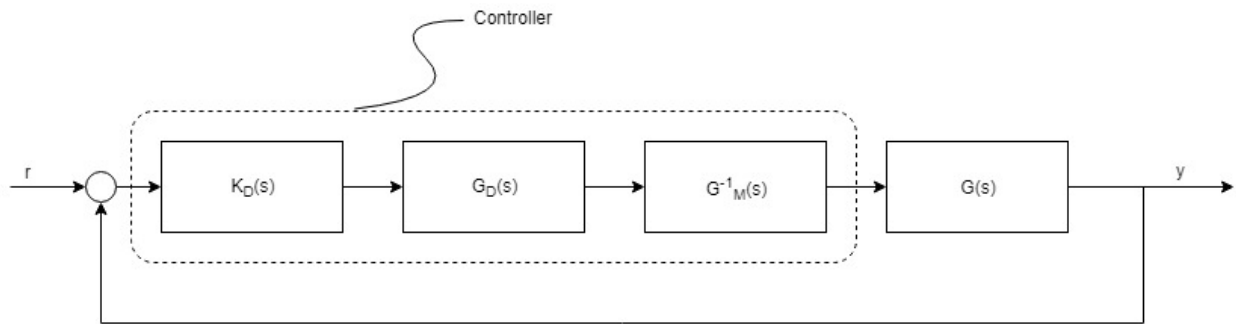

Figure 2: Decoupling controller schematic
- Design a DIDO feedback controller based on your model and diagonal controller using dynamic decoupling (see Figure 2). In dynamic decoupling, controllers are designed for a shaped plant  $G_s = G_D G_M^{-1} G$  where  $G_M$  is the plant model,  $G_D$  is the diagonal portion of the plant model, and  $G_M^{-1}$  is a proper, stable approximation to the plant model inverse. Assuming that your decoupling controller works properly, your diagonal controller should be effective for the shaped plant. As before, test the performance in hardware using the reference discussed above. NOTE: Your final controller should be  $K = G_M^{-1} G_D K_D$  where  $K_D$  is the diagonal controller you designed previously.